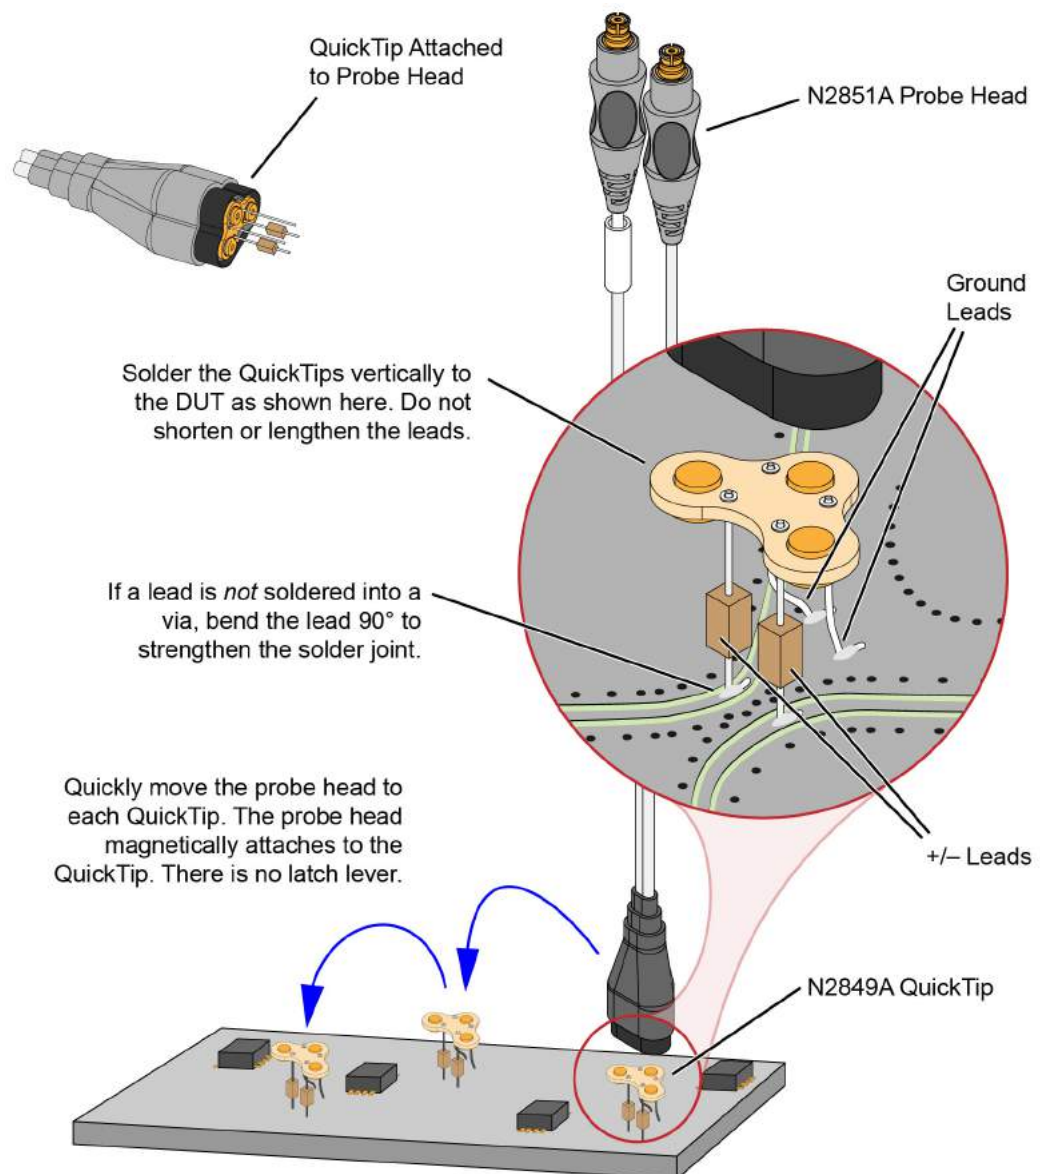

Figure 45 Probing with the N2851A Probe Head and N2849A QuickTip
Permanently solder any number of QuickTips to your DUT as shown in Figure 45 on page 68. Because the probe head is magnetically connected (instead of mechanically connected) to the QuickTip, you can effortlessly connect and disconnect to each QuickTip. For best performance, position the QuickTip vertically on the DUT. The N2849A QuickTip has two signal leads and two ground leads. The ground leads have minimal effect on your differential measurements. However, if you are making only differential measurements you can optionally cut off the ground leads or fold them out of the way. Be aware that without the ground leads, the mechanical stability of the QuickTip will be reduced and you will need to stabilize the probe head.
- Orient the QuickTip vertically as shown in Figure 45 on page 68.